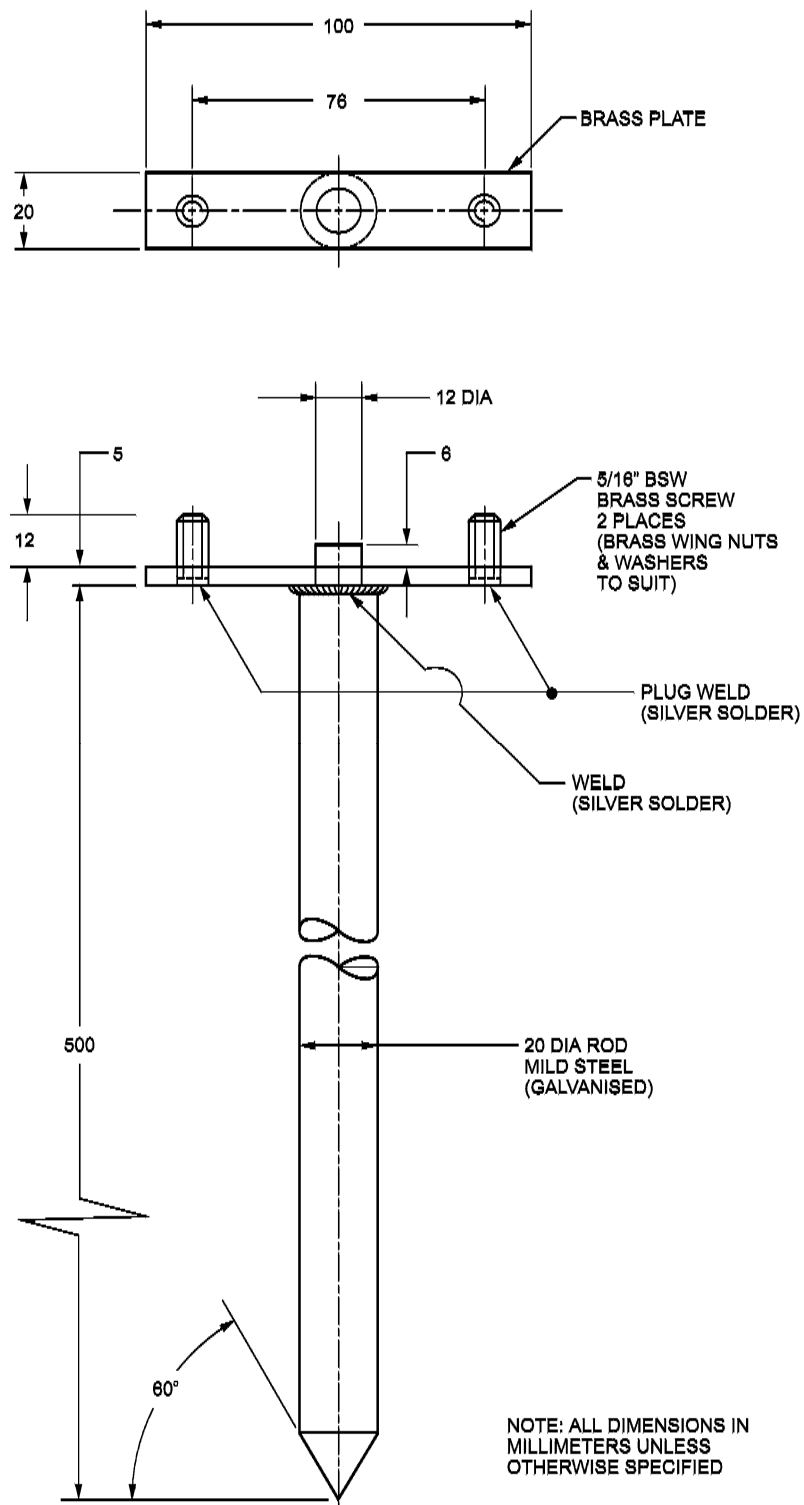

Figure 14-10 Temporary Ground earthing Point
73. A sample ground earthing point specifications are detailed in Figure 14-9 and Figure 14-10.
- b. **Alternate Method.** When the standard earth point shown in Figure 14-9 is not available, temporary earth points may be manufactured using a galvanised mild steel rod with a brass top plate as shown in Figure 14-10.